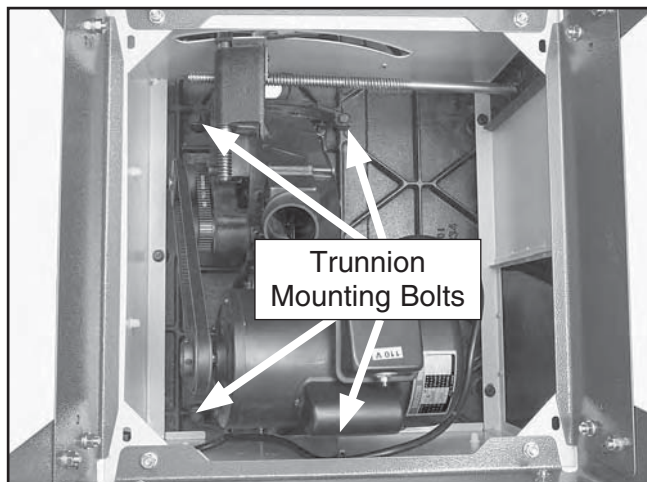

Figure 114. Trunnion mounting bolts.
6. To adjust the table, slightly loosen the hex bolts in the trunnion mounting locations (see **Figure 114**) and slightly tap the trunnions in the needed direction. Repeat **Steps 2–5** until the blade and miter slot are parallel.